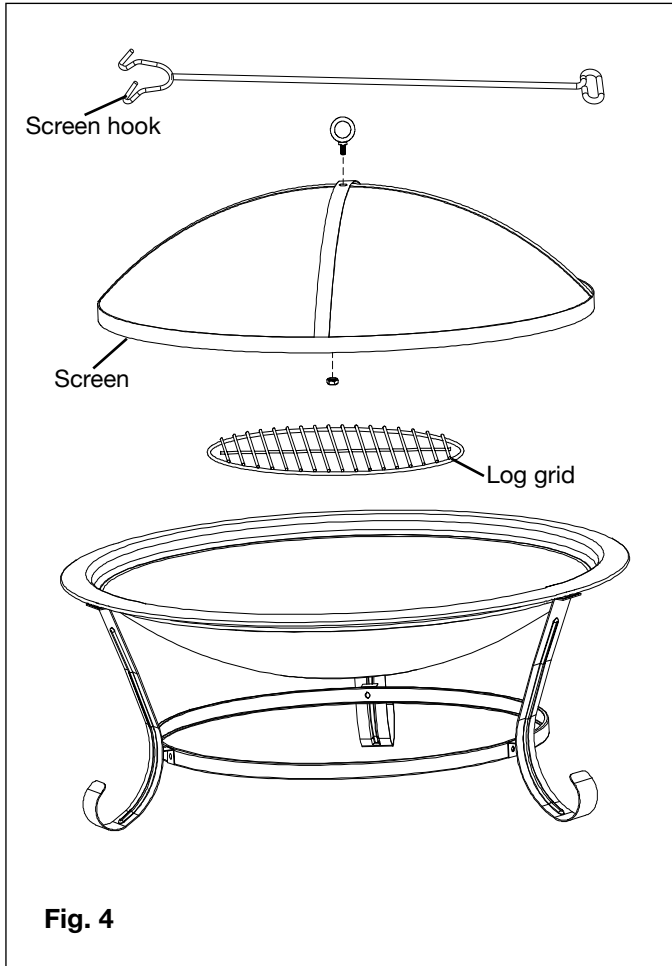

Fig. 4
4. Place the **log grid** on top of fire bowl followed by the screen and the screen hook (Fig. 4).